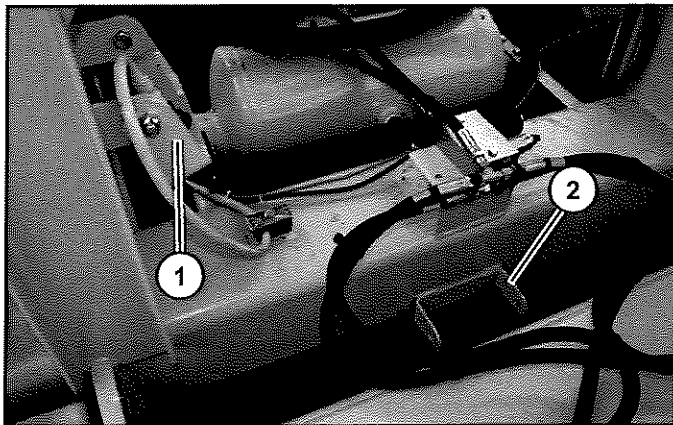

Figure 34
2. Remove the photo eye from the transport position (Item 1) and bolt into the operating position (Item 2) (Figure 34). Face the eye towards the head end of the conveyor. DO NOT tighten bolts, the bracket (Item 2) for the photo eye needs to swing.